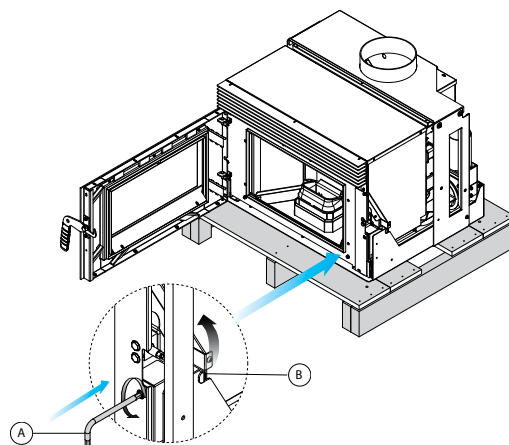
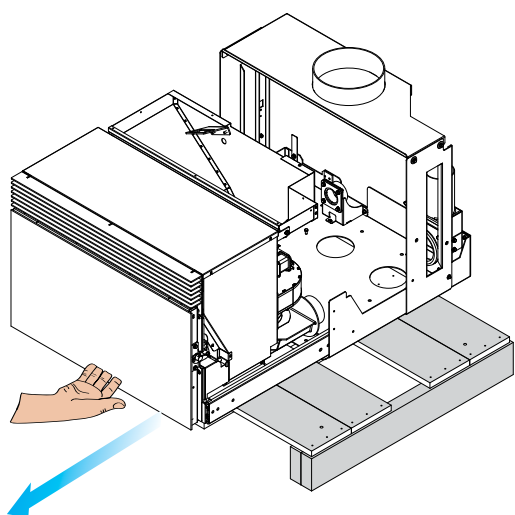

fig. 6.1.2
fig. 6.1.3
- 4) Insert the Allen key (A) into the limiter's socket; turn the closing lever counterclockwise, to position (B) (fig. 6.1.2), close the door, and take the appliance out, up to the end of the rails (fig. 6.1.3).